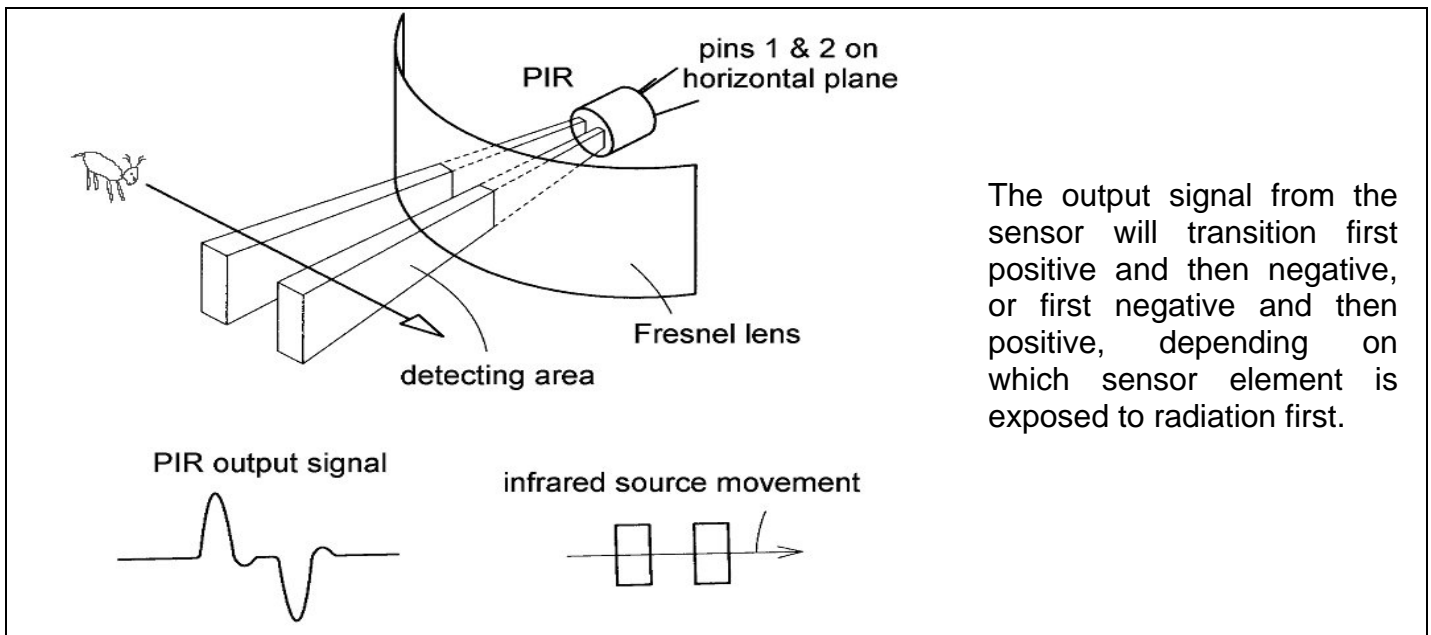
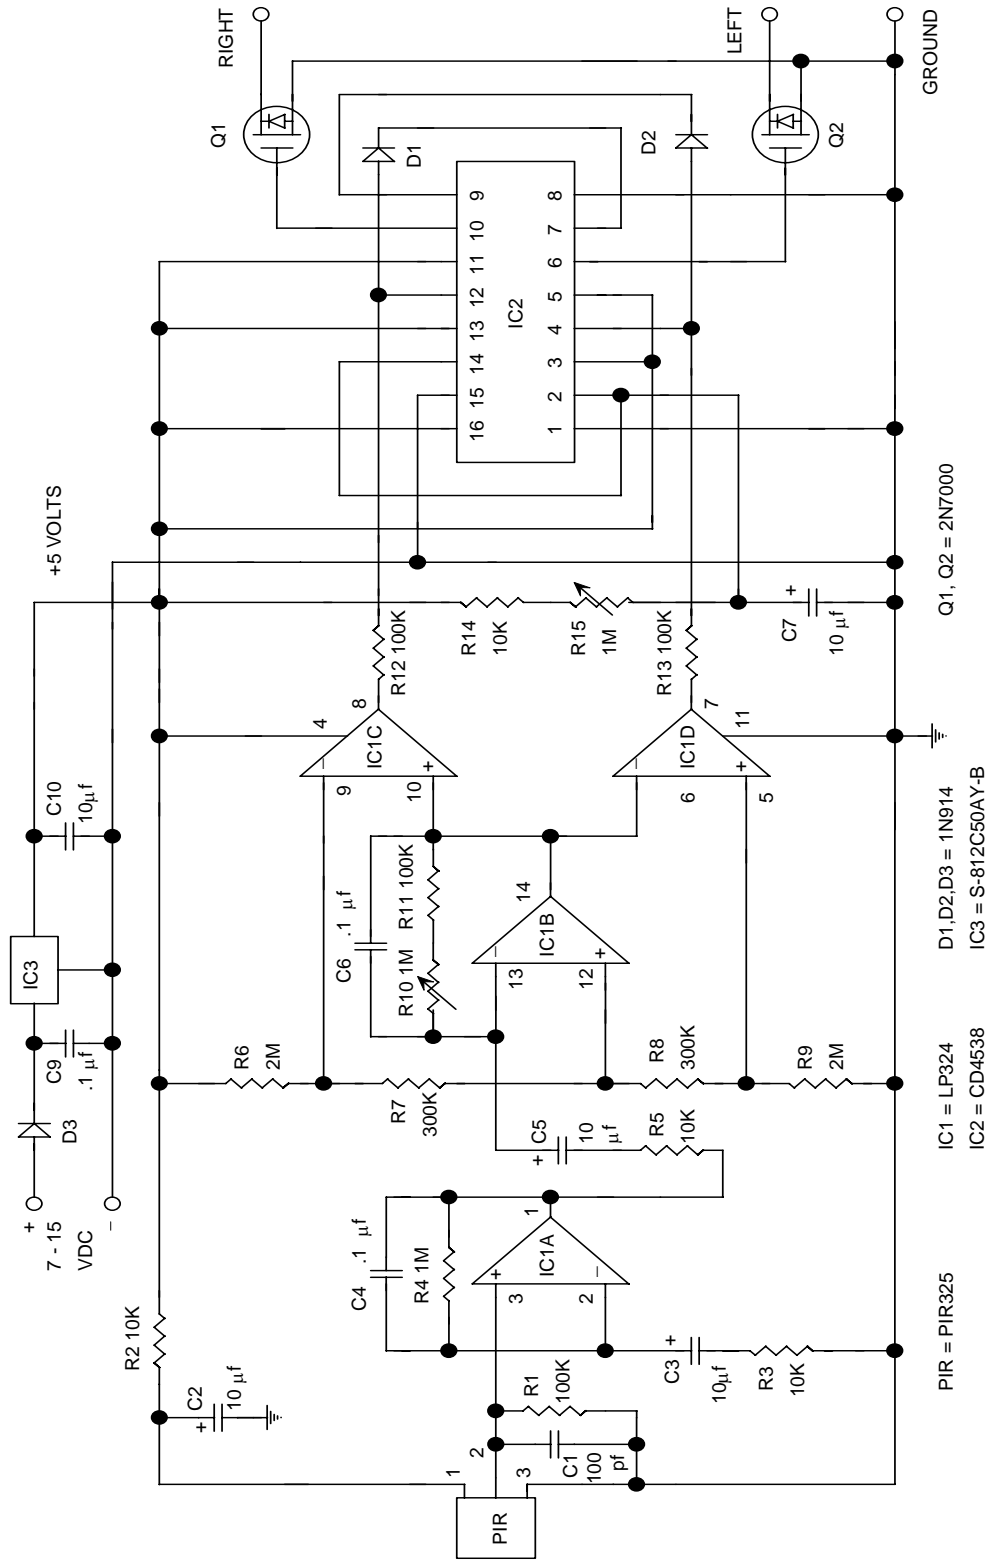

FIGURE 1
FIGURE 2
The sensor has two elements connected in a voltage-bucking configuration. This arrangement cancels signals caused by vibration, temperature changes within the sensor and sunlight. An animal passing in front of the sensor will activate first one and then the other element as shown in figure 1 whereas other sources will affect both elements simultaneously and be cancelled. The radiation source should pass in a horizontal direction so the elements are sequentially exposed to the IR source. The sensor also has a built-in infrared filter window.
Figure 2 is a circuit diagram of the GLDIR. Power is supplied to the circuits through micropower 5 volt regulator IC3. The 5 volts from the regulator is further filtered through R2, C2 and fed to pin 1 of the PIR325 pyroelectric sensor. The signal output at pin 2 of the sensor is bypassed to ground by a 100pf capacitor C1 to shunt any RF energy that might be picked up from radio transmitters or cell phones. A 100K load resistor R1 is also connected from pin 2 to ground.
Refer to the schematic in figure 1 and the physical layout in figure 2 for parts placement.
- 4 Insert electrolytic capacitors C2, C3, C5, C7, C10 with their long positive lead in the hole marked + on the PC board and in figure 2. Bend the leads, cut excess wire off and solder.